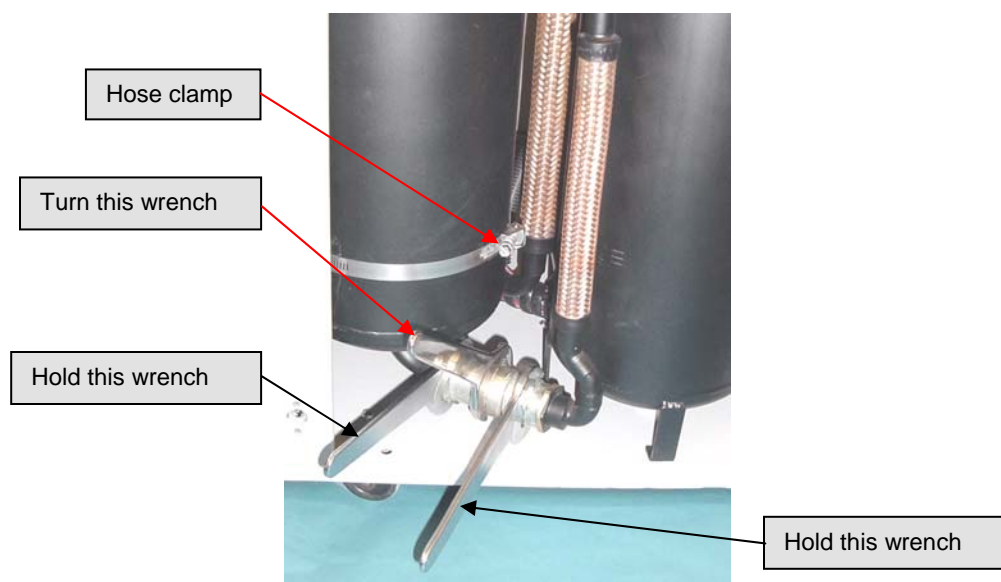

Figure 8-1: Disconnecting the Aeroquip® adsorber
- 5) Using three wrenches disconnect the Aeroquip® coupling between the adsorber and the oil separator as shown in Figure 8-1.